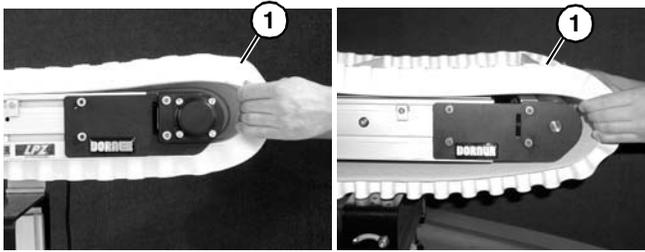

Figure 20
- Remove belt (Figure 20, item 1) from conveyor.